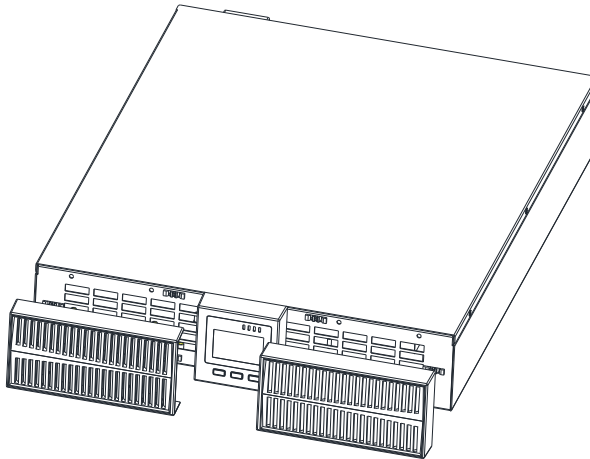

Fig.2-3 Removing the front plastic bezel cover
1. Remove the front plastic bezel cover, as shown in Fig.2-3.